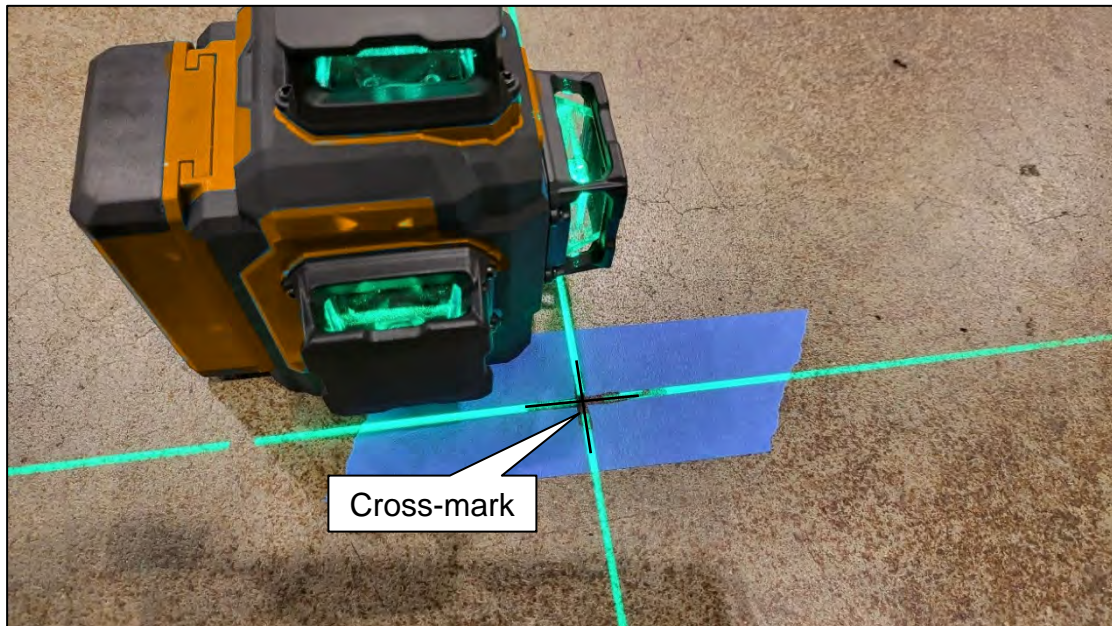

Figure 83
55. Place a cross-mark on the floor below the laser line (Figure 83).